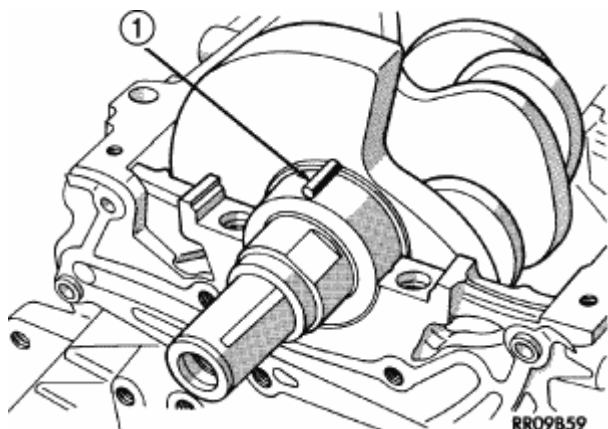

Fig. 4: Locating Plastigage
2. Place a piece of Plastigage across the entire width of the bearing shell in the cap approximately 6.35 mm (1/4 in.) off center and away from the oil holes. See **Fig. 4**. (In addition, suspected areas can be checked by placing the Plastigage in the suspected area). Torque the bearing cap/bed plate bolts of the bearing being checked to the proper specifications.